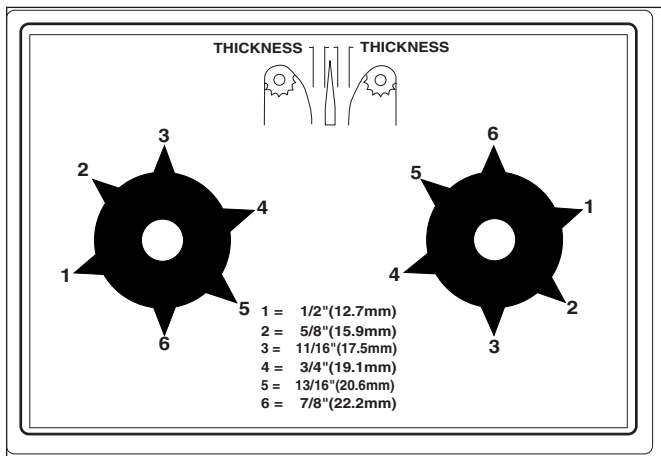

Figure 3. Bun Thickness Adjustment Controls
1. Set the Bun Thickness Adjustment Controls (Figure 3) to desired setting.